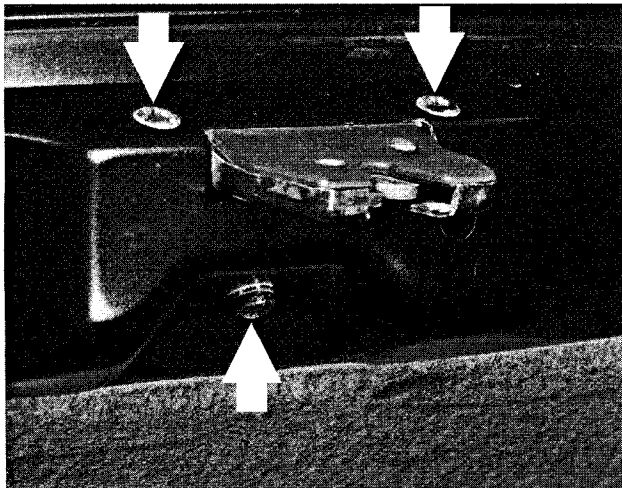

Fig. 3. Trunk lid lock mounting bolts (arrows).
2. Loosen bolts at trunk lid lock until it can just be moved. See Fig. 3.